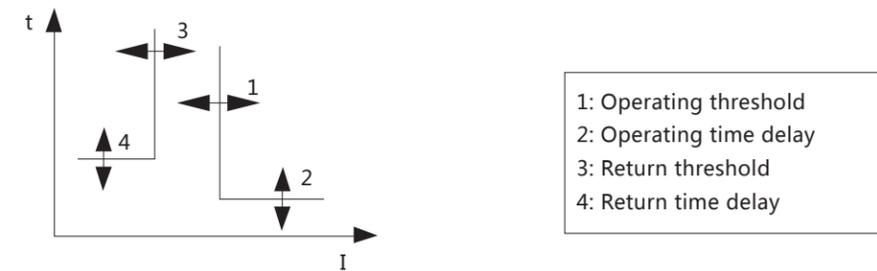

Figure 6 Operation principle of alarm
As illustrated by figure 6: Earthing alarm is triggered according to ture rms value of grounding current. Alarm delay starts when grounding current is larger than operating thereshold (1). Alarm is sent out after operating delay time (2), grounding alarm DO acts; Return starts when grounding current is less than return threshold (3). Alarm is cancelled after return time delay (4), grounding alarm DO returns. Return threshold value should not larger than operpting thersahold value.